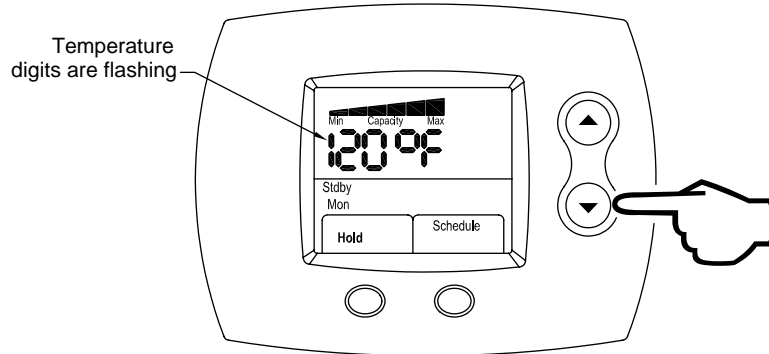

Figure 103
Step 1: From the Home screen, press the **UP** (increase water temperature) or **DOWN** (decrease water temperature) buttons until the new desired water temperature is shown. This is shown in Figure 103.